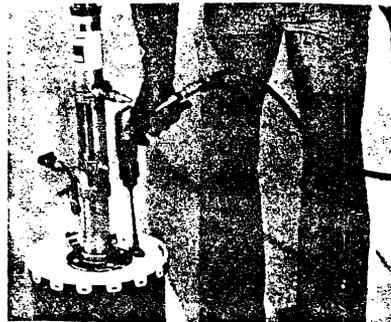

FIGURE 14
7.03 Loosen the fitting which holds the rod of the mixing assembly in place and attach the chuck of the Air Drill to the rod. (See Figure 14)